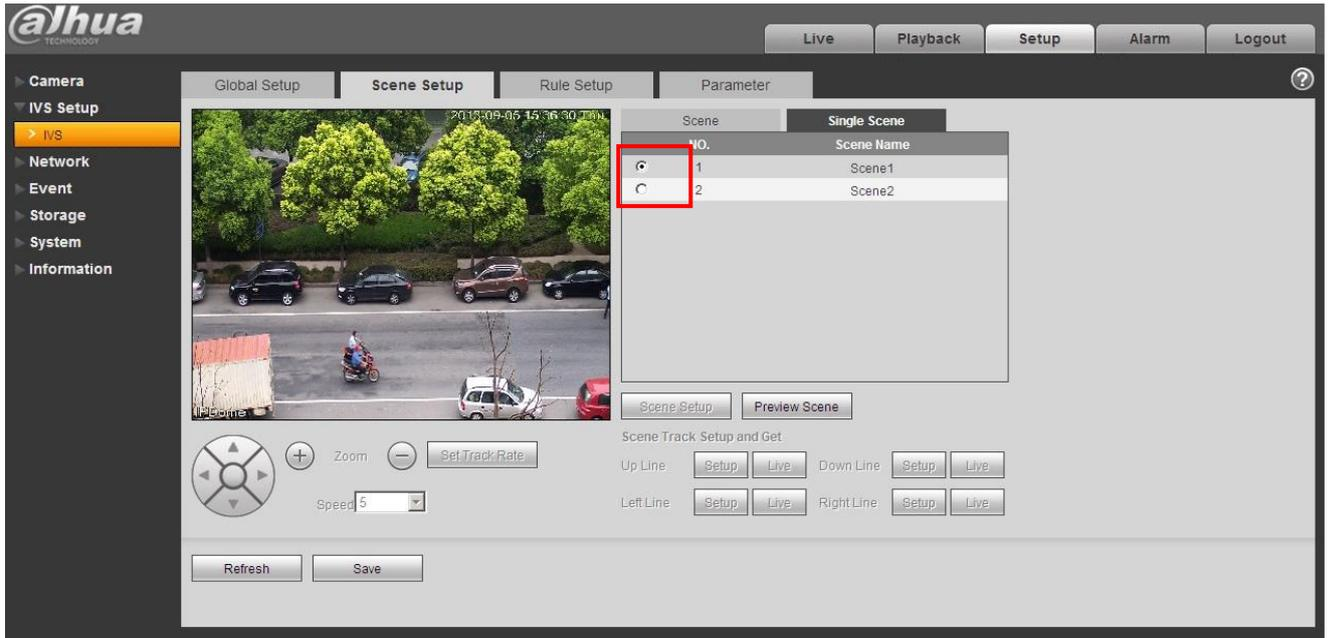

Figure 3-4
- 5) Select track scene. Go to the single-scene track interface and select the monitor scene you want. Click the save button to complete the setup. See Figure 3-4.